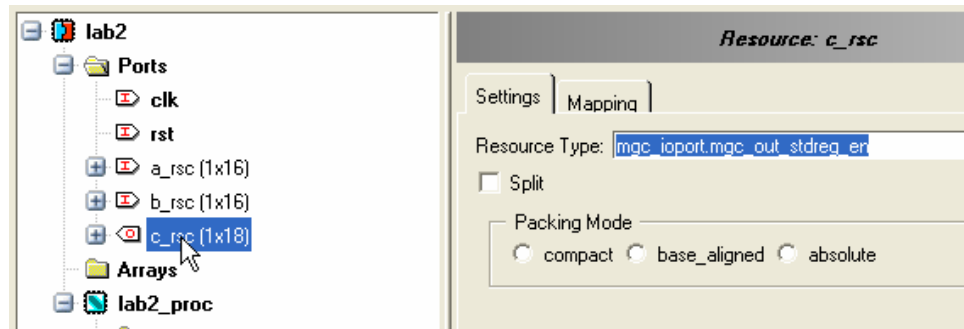

Figure 5 Setting Resource Types
- ✓ Click on “Architectural Constraints” and set both the “a” and “b” resource types to “mgc_inwire_en. Set the “c” resource type to “mgc_out_stdreg_en (Figure 5).